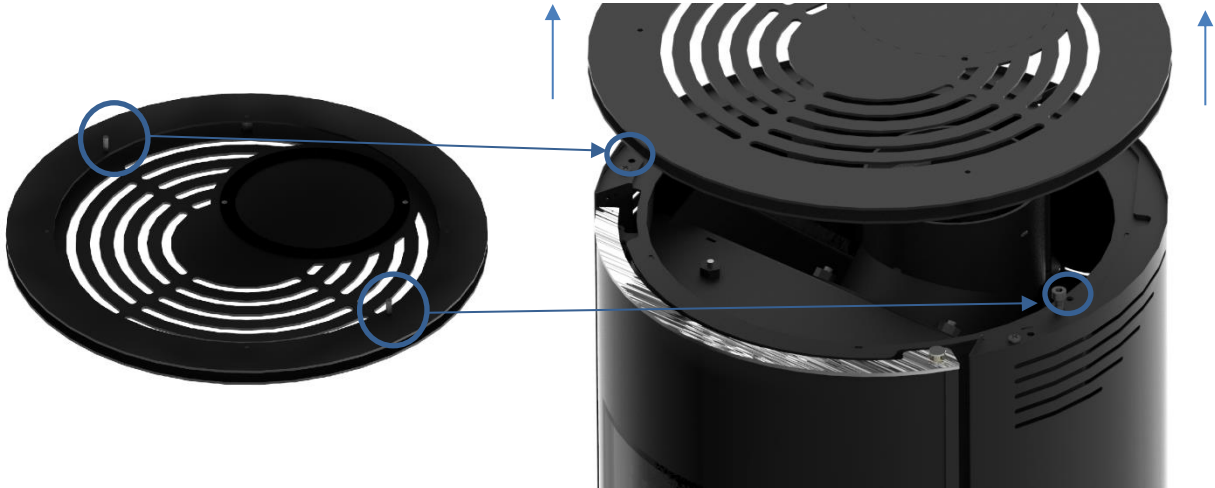

Figure 16 – Disassemble the worktop in the equipment
- 1- Remove the top, just lift it up, as shown in Figure 16.